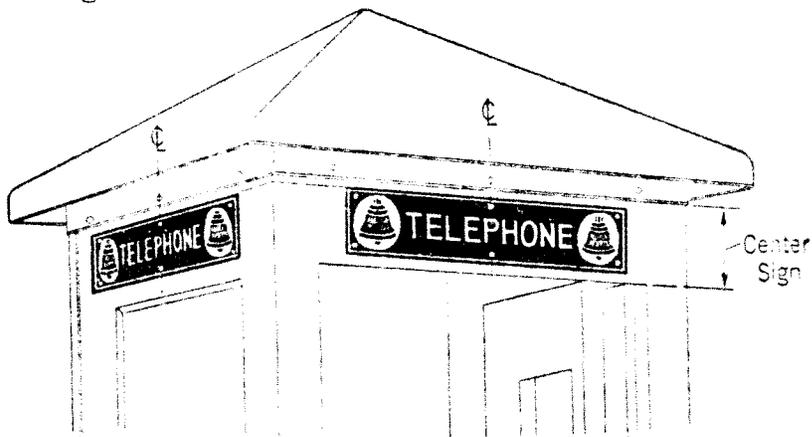

Fig. 4—Installation of No. 26 Sign
1.07 Install No. 26 sign on outdoor booth as shown in Fig. 4.